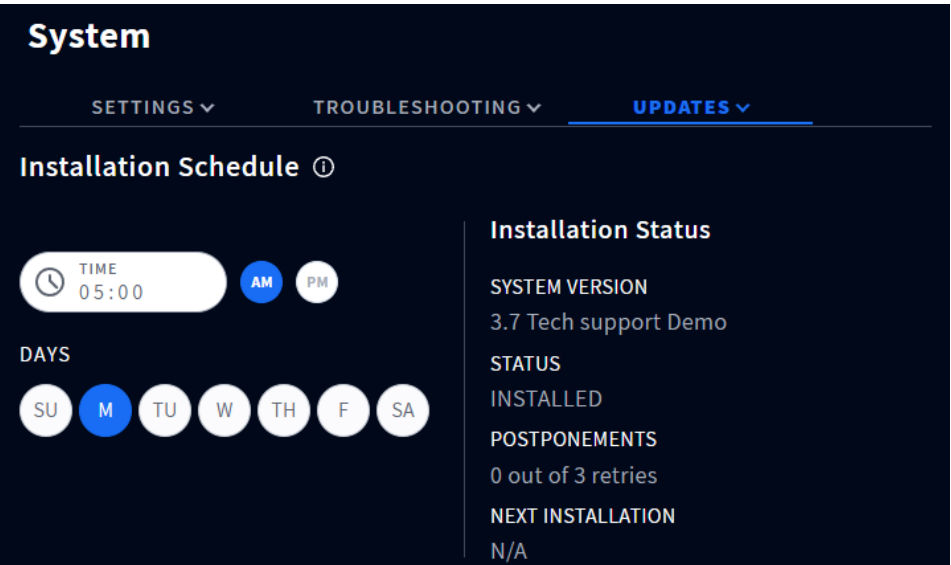

Fig. 5.13
**Installation Schedule:** This option allows you to schedule when you wish to download and install the latest updates. Updates can take several minutes to complete, and during this time, your system will be unavailable. It is, therefore, recommended that you schedule these updates after store hours or during the slowest business hours if your store is always open. Fig. 5.13 shows the installation schedule is set to take place at 5 AM on a Monday. Any new update, will therefore, always be updated at this time and on this day. Multiple days can also be selected so that an installation can be postponed to occur on another day of your choosing.